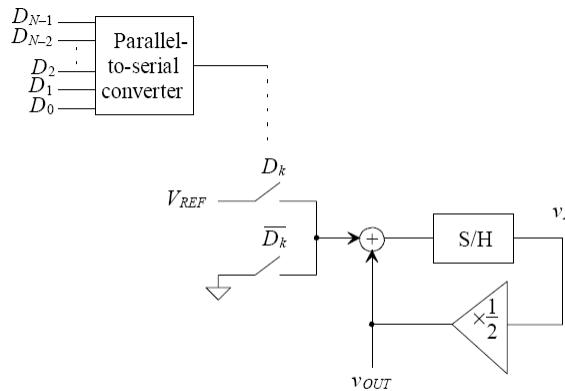

Figure 29.17 A cyclic digital-to-analog converter.
29.13 For the cyclic converter shown in Fig. 29.17, determine the gain error for a 3-bit conversion if the feedback amplifier had a gain of 0.45 V/V. Assume that $V_{REF} = 5$ V.